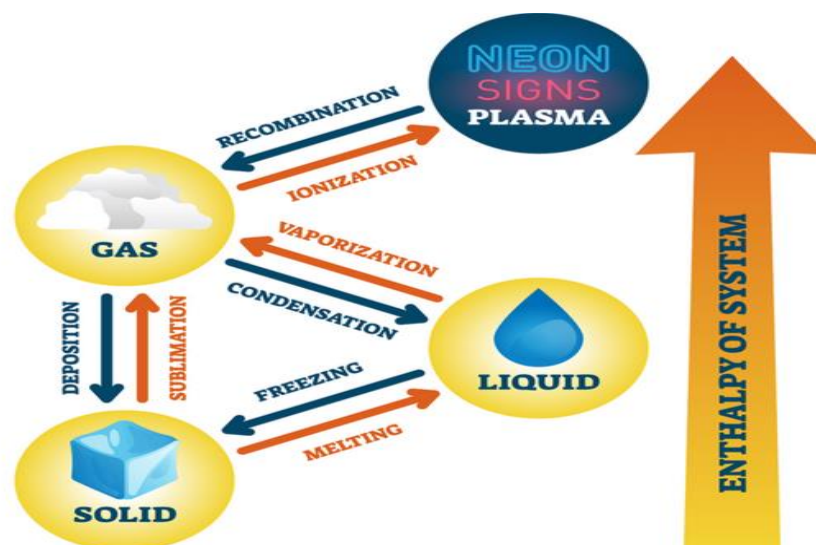

Figure 9. Stores energy by changing the phase of a material
- Stores energy by changing the phase of a material (example, solid to liquid or liquid to gas) at a constant temperature (Figure 9).